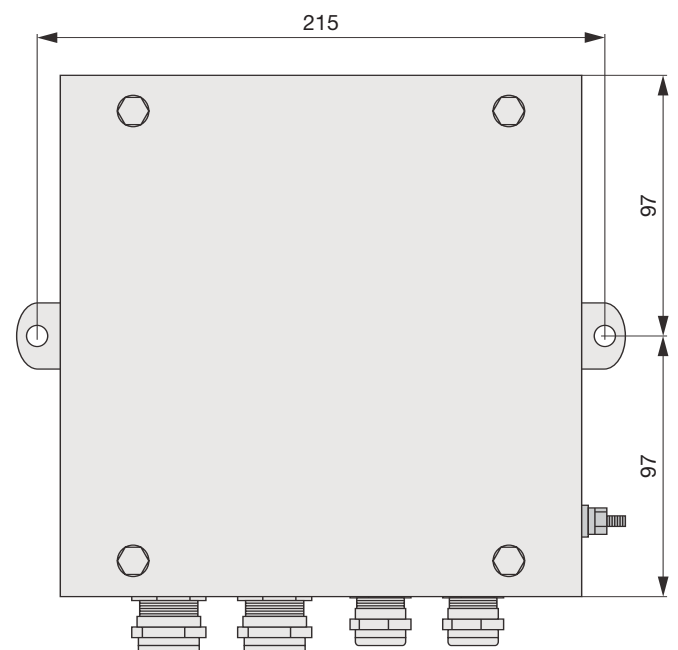

Fig. 18: Drilling dimension OZD Profi G12DE ATEX 1
- ▶ Drill two holes in the assembly plate as per the drilling dimensions in figure 18.